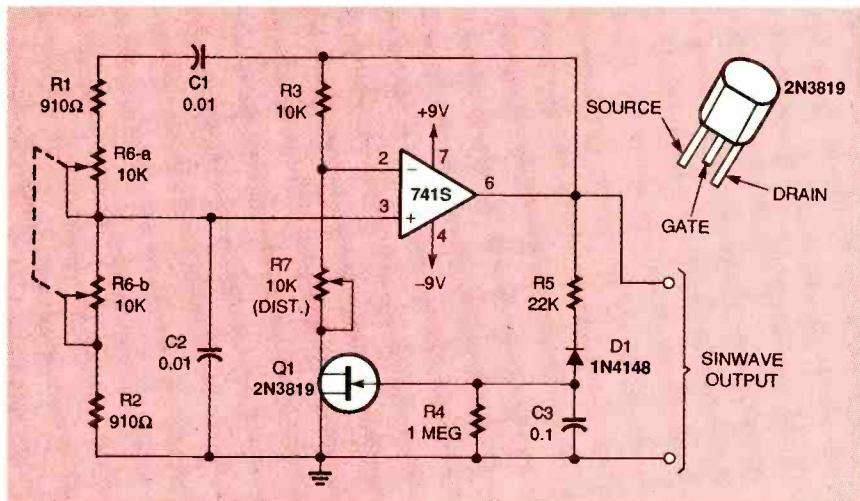

FIG. 10—A JFET-REGULATED 1.5- to 15-kHz Wien-bridge oscillator.
Figure 10 is the schematic for an alternative circuit that consumes only a few milliamperes. In this circuit, JFET Q1 serves as a variable resistance that is voltage-controlled by the oscillator's negative peak amplitude. This is detected by the series network of resistor R5, diode D1, and capacitor C3 in parallel with resistor R4.
To organize the Fig. 10 circuit, connect its output to an oscilloscope and adjust trimmer R7 to the lowest setting that will give stable oscillation without visible distortion of the waveform over the 1.5 kHz to 15 kHz band. If the Wien bridge components are well matched, THD could be less than 0.1%. The output signal amplitude depends on the pinch-off characteristics of the 2N3819 JFET, a value that is typically between 2.5 and 7 volts, peak-to-peak.
Figure 12 is the schematic for JFET-regulated version of the circuit in Fig. 10, modified to form an economical sine/squarewave generator. It covers the 15 Hz to 150 kHz frequency range with four settings of switch S1. Sinewave potentiometer R14 permits the sinewave's peak -to-peak output level to be preset to 8 volts. The square-wave generator section consists of common-emitter amplifier Q2 and Schmitt trigger IC2. The base of transistor Q2 is driven by the sinewave output of IC1 through R9, and Q2's emitter is biased to about -600 millivolts through diode D2 and resistor R11.
**Constant current configuration.** Most modular DC-to-DC converters are configured to provide a constant output voltage. The configuration shown in Fig. 10 provides a constant-current output. This is useful in applications where the load
**FIG. 10—CONSTANT CURRENT CONFIGURATION.** This is useful in applications where the load impedance at the output may change, but it is desired that the same current be delivered.